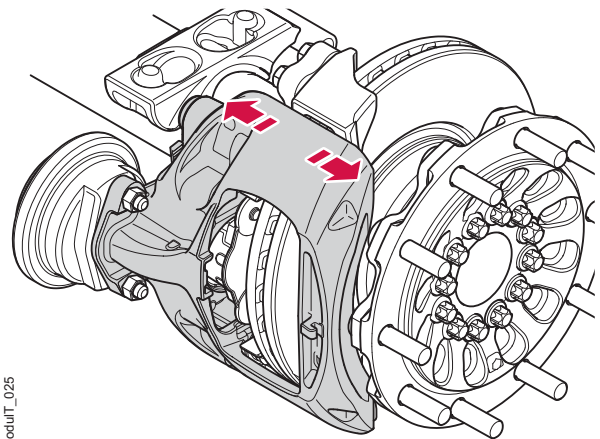

Figure 30. Calliper free movement
2. Once the brake pads are removed, move the calliper by hand back and forth to check its movement, see figure 30. The calliper must be free to slide on the leading and trailing slide pins.